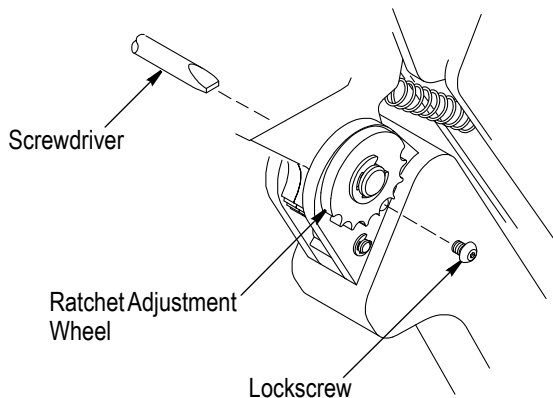

Figure 4
1. Remove the lockscrew from the ratchet adjustment wheel. Refer to Figure 4.